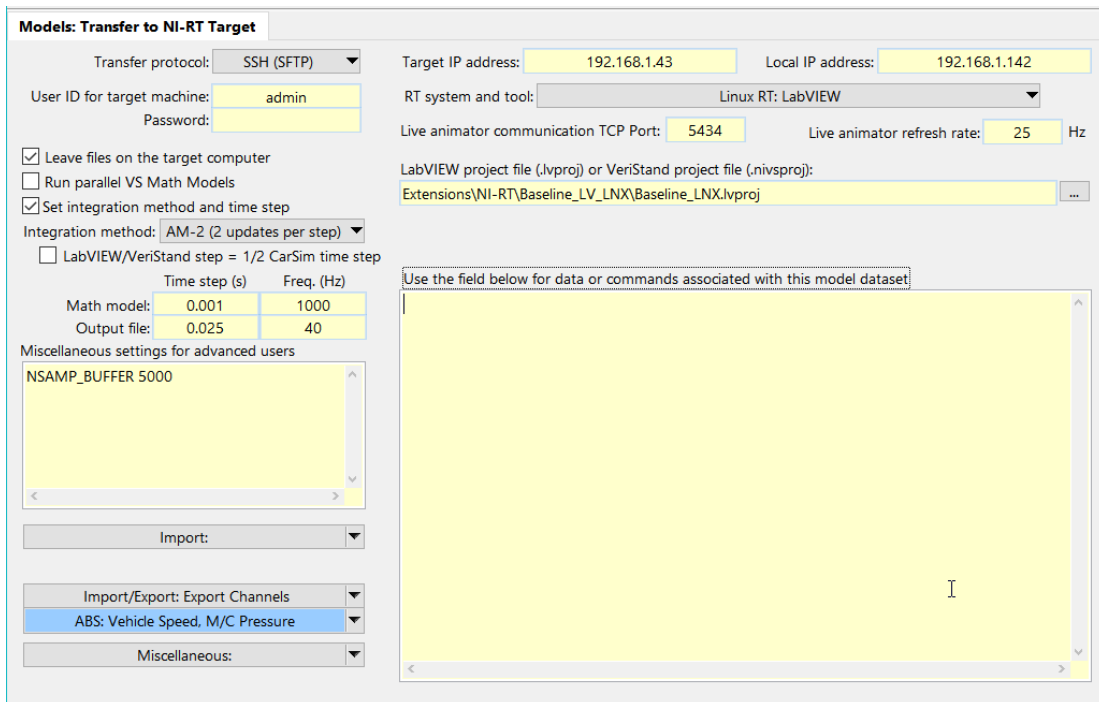

Figure 12. Dataset for Linux RT LabVIEW example.
2. Click the blue link **LinuxRT: LabVIEW – Baseline** to view the linked dataset for the NI-RT model (Figure 12). Select **Linux RT: LabVIEW** from **RT System and Tool** pull-down list. Make sure Target ID or IP address, Host IP address, and LabVIEW Project File(.lvproj) entries are correct.